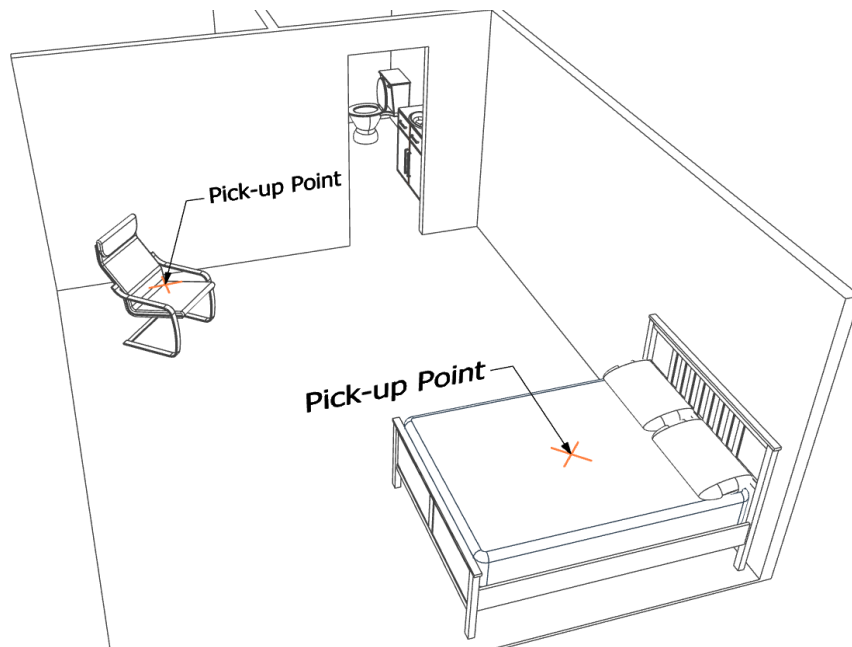

Figure 3: **Sample Layout (Pick-up Point)**
- For example, the pick-up point over a bed to the pick-up point over a chair or toilet (see Figure 3).